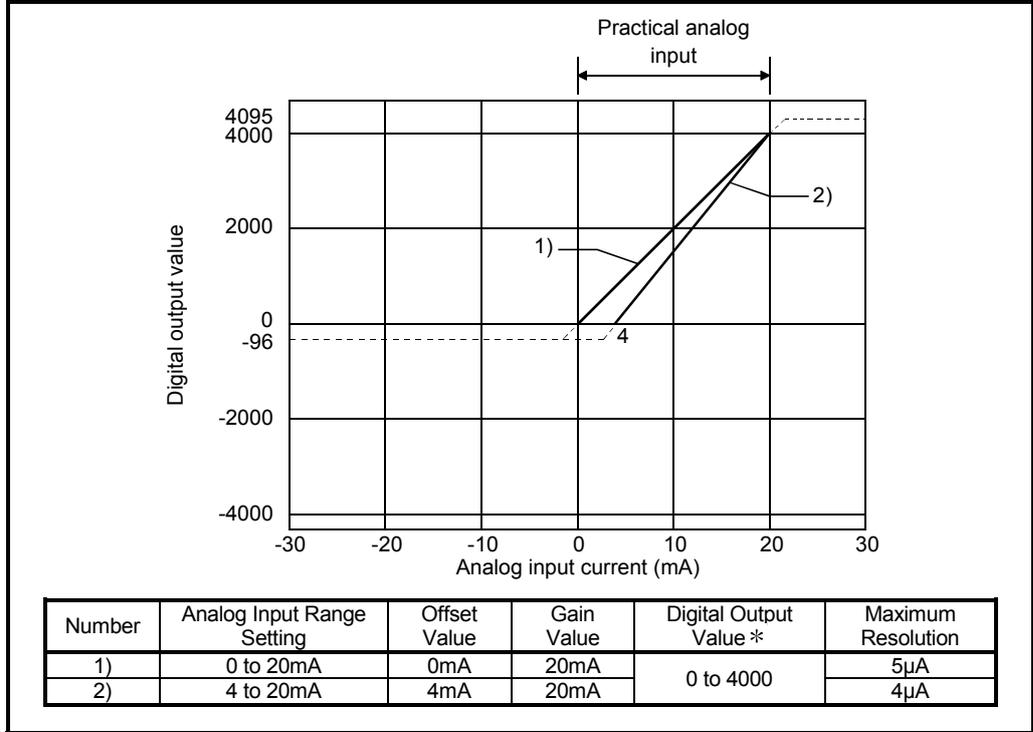

Fig. 3.2 Current Input Characteristics
(1) Do not input more than ±30mA. A breakdown may result due to heat increase.
(2) If the analog input provided corresponds to the digital output value* beyond its range, the digital output value is fixed to the maximum or minimum. • For 0 to 4000, the digital output value is within a range of -96 to 4095.
(3) Within the analog input and digital output scopes of each input range, the maximum resolution and accuracy are within the performance specification range. Outside those scopes, however, they may not fall within the performance specification range. (Avoid using the dotted line part in Fig. 3.2.)